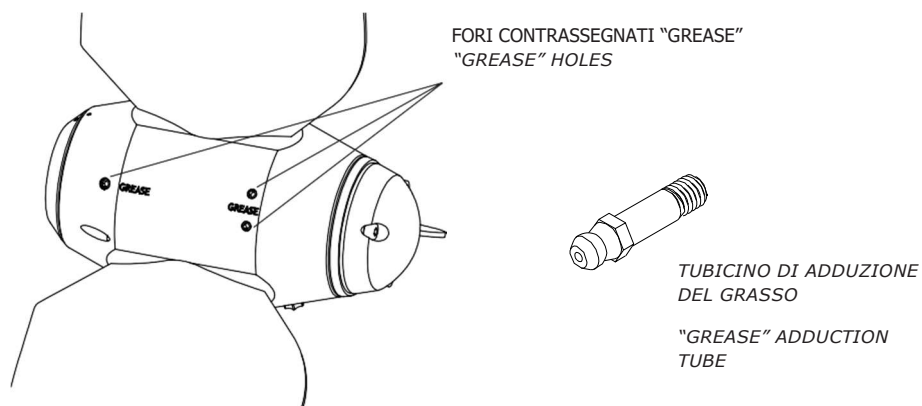

fig. 2
- d. Fill completely the propeller body with fluid grease through the appropriate holes marked "GREASE" (fig2). Start from a first hole of your choice and proceed with each other hole as follows: